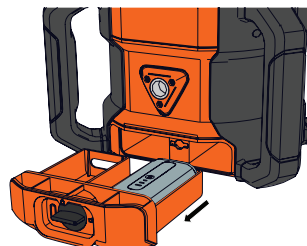

Figure 5
2. Remove battery compartment from rotary laser. (Figure 5)